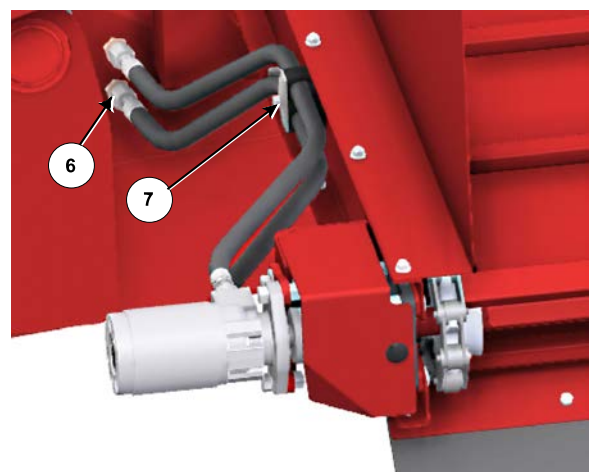

Figure 13: Connect the Hydraulic Hoses ^{223146C}
- Connect the other end of the hydraulic hoses to the bulkhead fittings (6) on the mixer frame, see *Figure 13*.
- Fasten the hoses to the side of the conveyor with the hose clamp (7) and a 5/16" x 1-3/4" hex bolt.